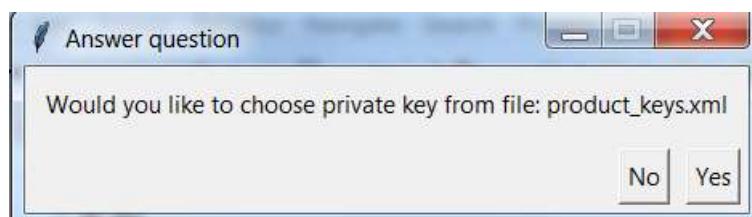

Figure 56: window to select the use of private key
6. In this step the user decides to create private key manually (by answering “NO”) or automatically (by answering “YES”) by choosing it from existed *product\_keys.xml* file (Figure 56).